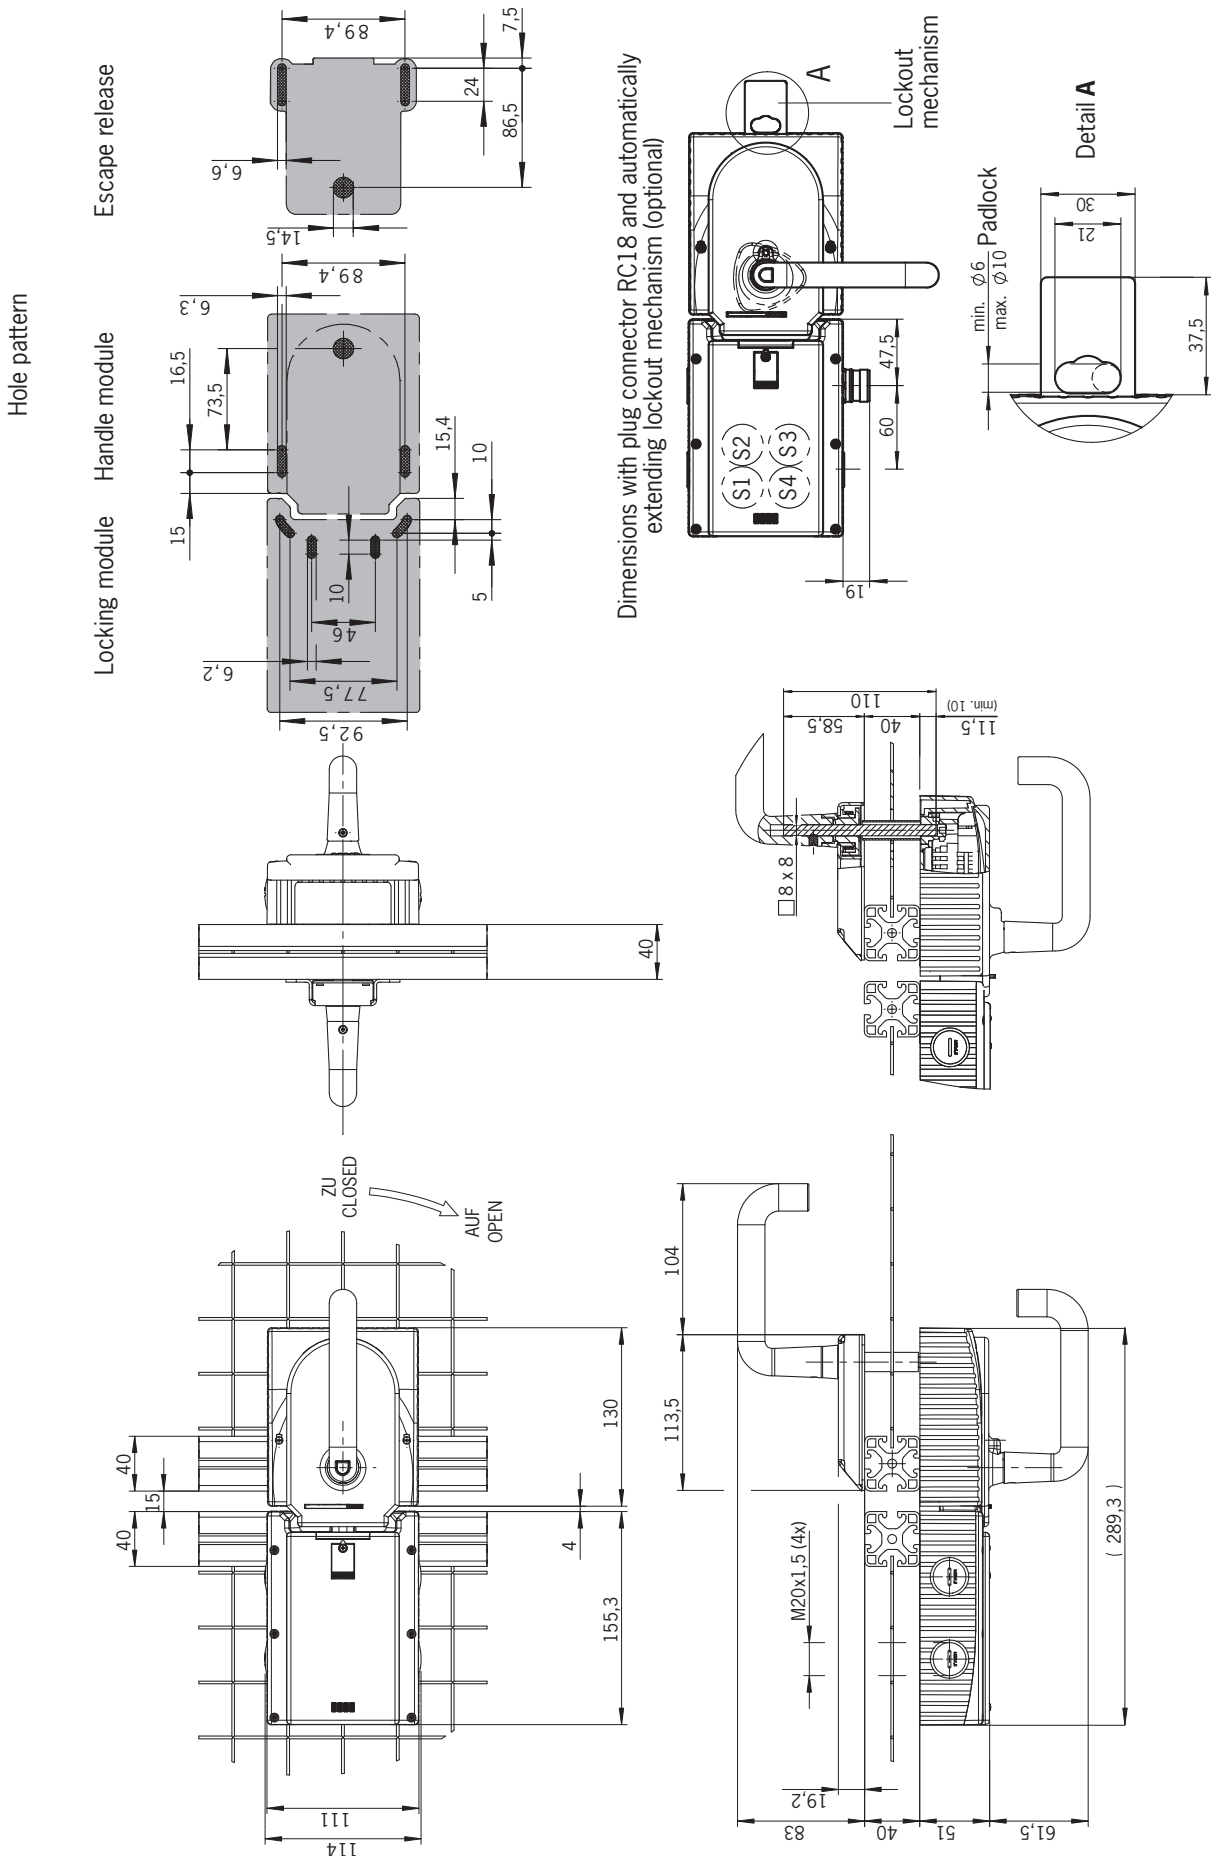
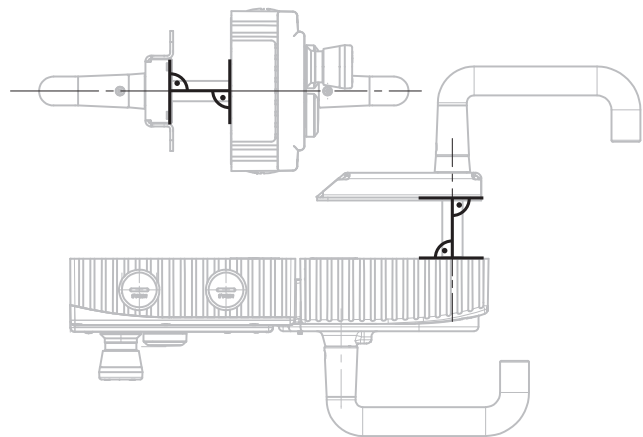

Figure 4: Dimension drawing – MGB mounted, without optional mounting plates
Figure 8: Installation example for door hinged on the right (general view)
- › Align escape release axis at right angles to the handle module. See *Figure 4* and *Figure 8*.
For mounting steps, see *Figure 8* and *Figure 9* to *Figure 14*.